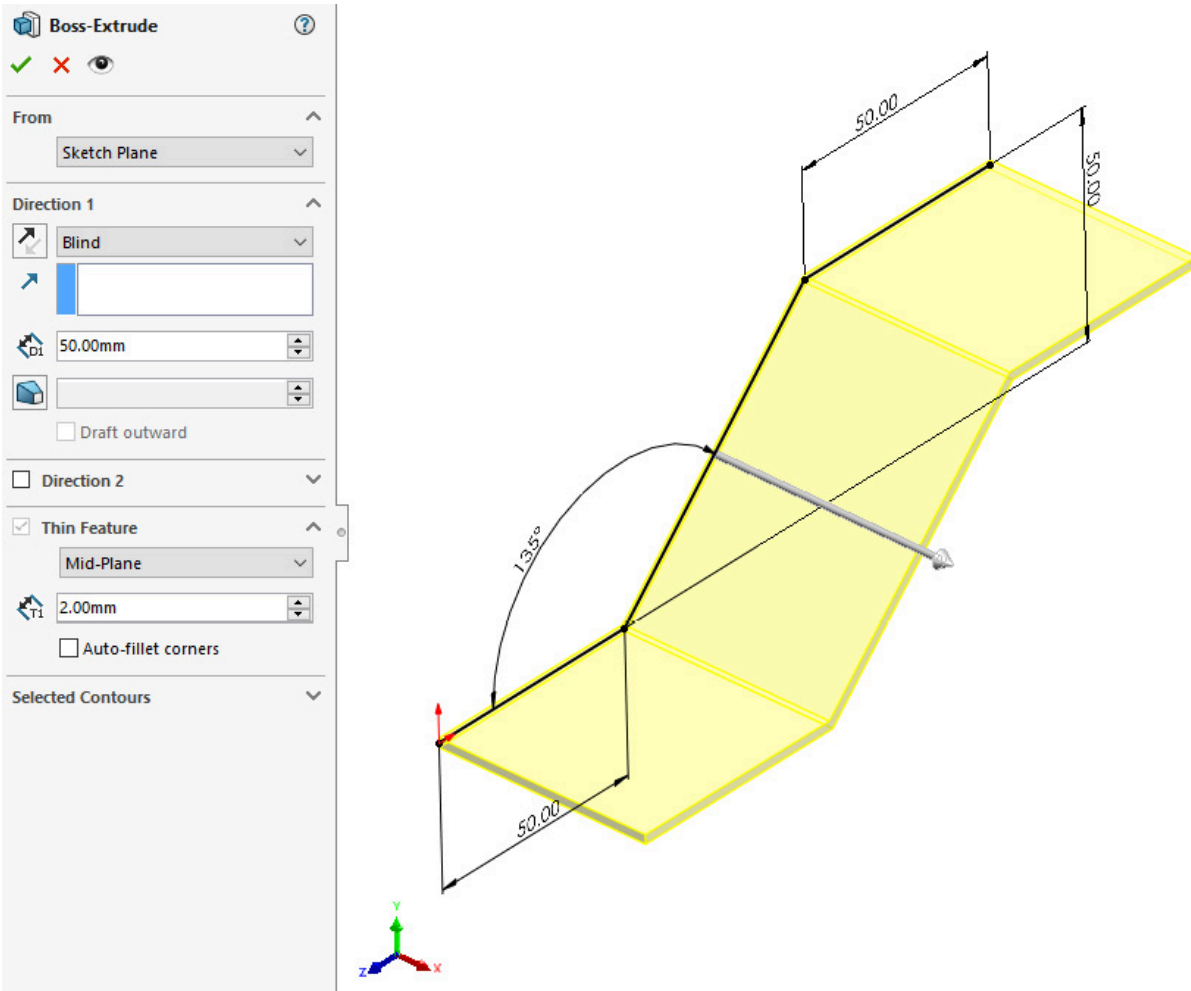

Figure 11.10: Extrude the sketch using Thin Feature
3. Use the sketch to create an Extruded Boss/Base. This can be 50 mm long, with a Blind End Condition. Ensure that you also select the **Thin Feature** option if it is not already selected (this should be automatically selected when trying to extrude an open profile), and then set the thickness to **Mid-Plane** and **2mm** thick (*Figure 11.10*). Next, click **OK** check mark to create the feature.